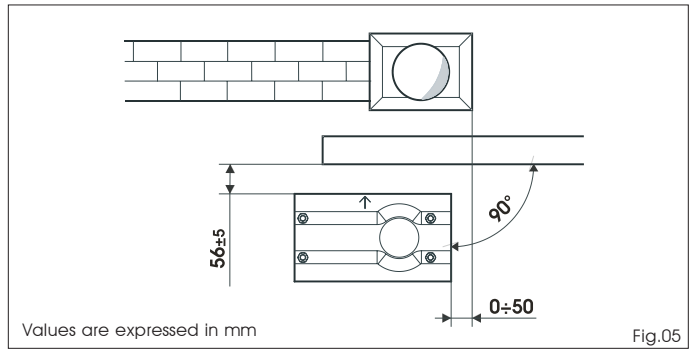
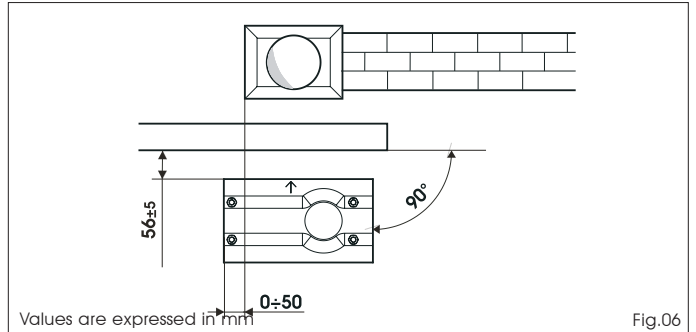

Fig.05
Fig.06
- In order to ensure that the pinion and rack engage correctly, the foundation plate must be positioned as shown in Fig. 05 (right closing) or Fig. 06 (left closing).